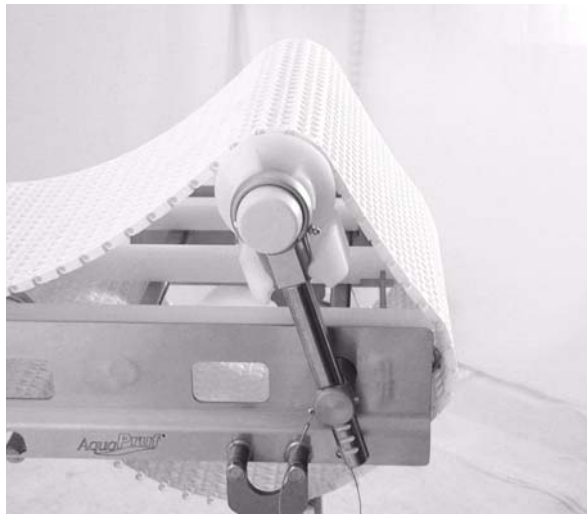

Figure 48
1. Tip up idler tail assembly (Figure 48).